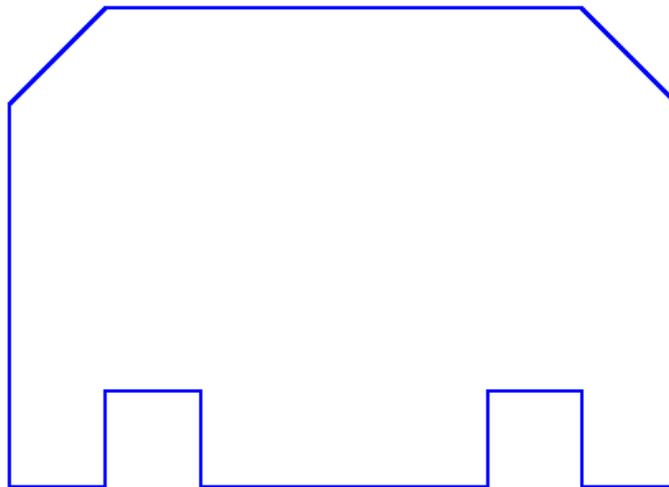

Figure 1-48 Outer loop of the sketch
- Draw the sketch of the model using the **Line** and the **Circle** tools, refer to Figure 1-48 through Figure 1-50.
The outer loop of the sketch is completed and is shown in Figure 1-48.